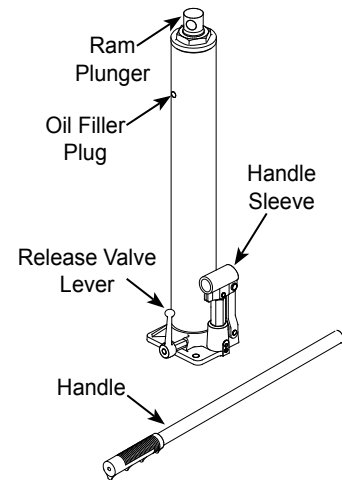

Figure 5 - Hydraulic Unit/ Ram
1. Verify that the product and the application are compatible, if in doubt call Omega technical service (888) 332-6419.
4. Remove hydraulic unit and position as shown in figure 5.